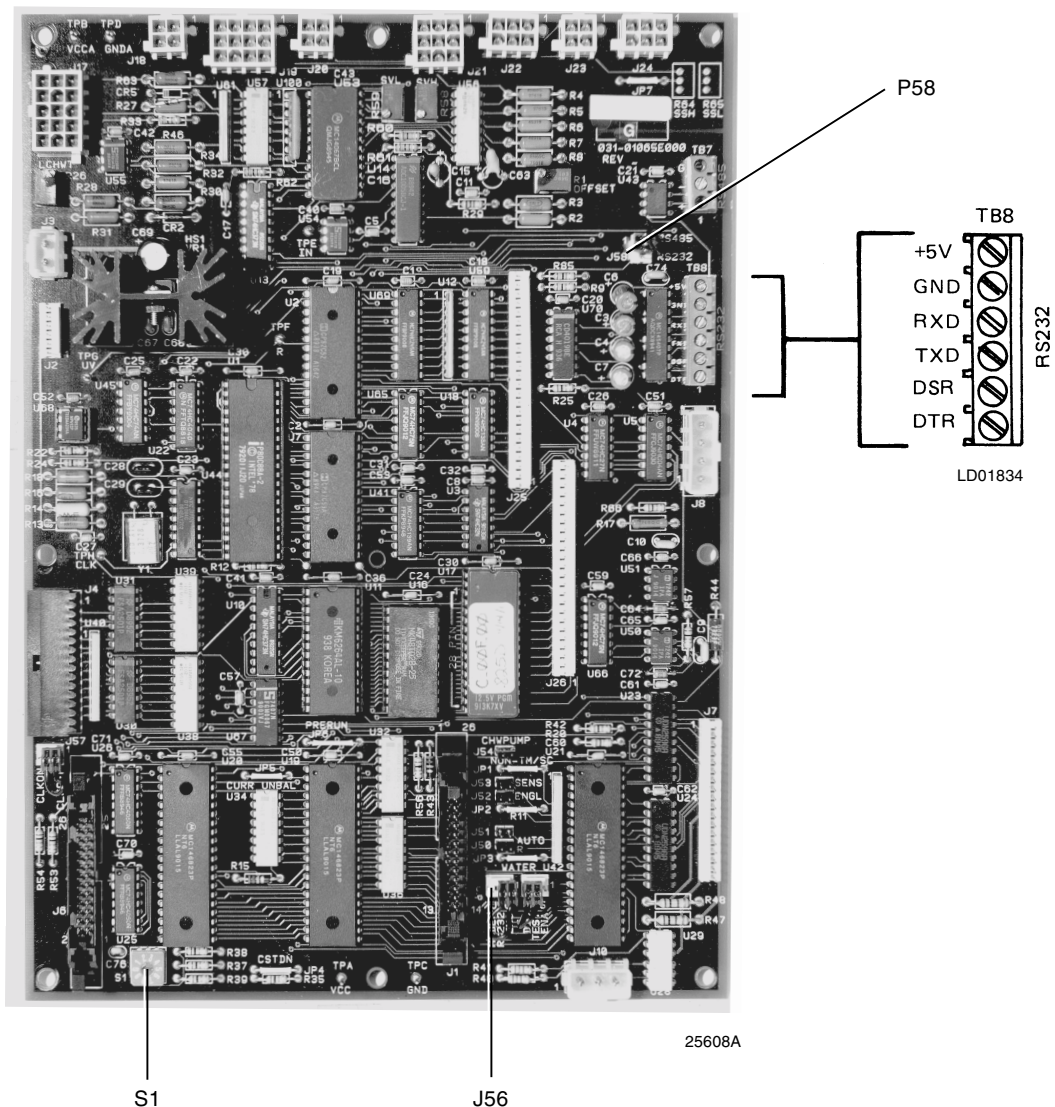

FIG. 9 – MICROBOARD (031-01065-000, -001, -002)
5. If printers are being installed on several chillers at one job site, it is advantageous to assign an identification number to each chiller. Refer to Fig. 9 and locate S1 on the Microboard. Using a small screwdriver, turn switch S1 to desired number. The selected number will be printed at the top of each printout.